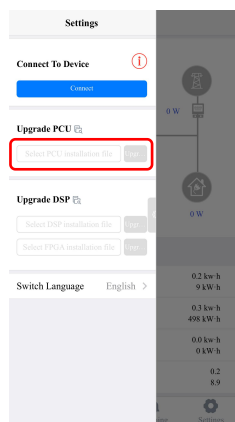
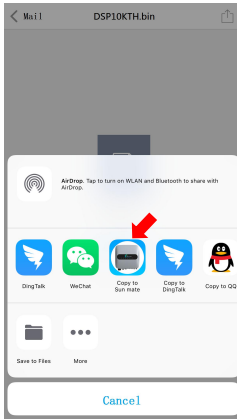

Figure 4-16
Figure 4-17
3. Upgrade file can be imported into APP by mailbox. (Figure 4-16, Figure 4-17)